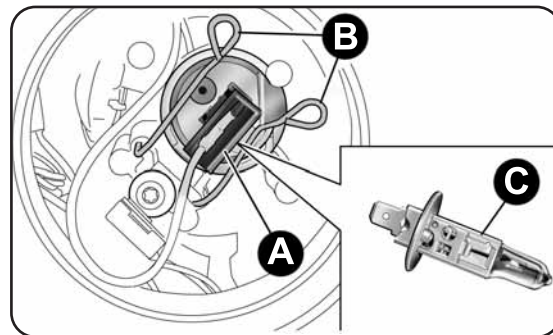

fig. 132
- remove the connector A-fig. 132 and then open the tabs B towards;